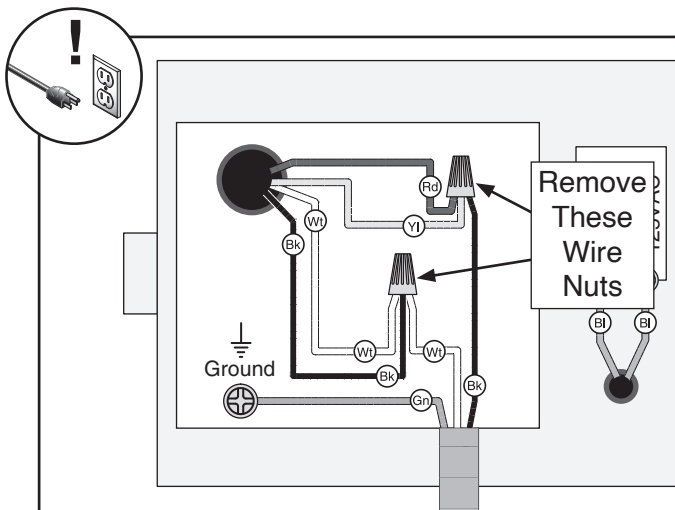

Figure 7. Motor prewired for 110V.
3. Open the motor junction box, then loosen two wire nuts indicated in **Figure 7**.